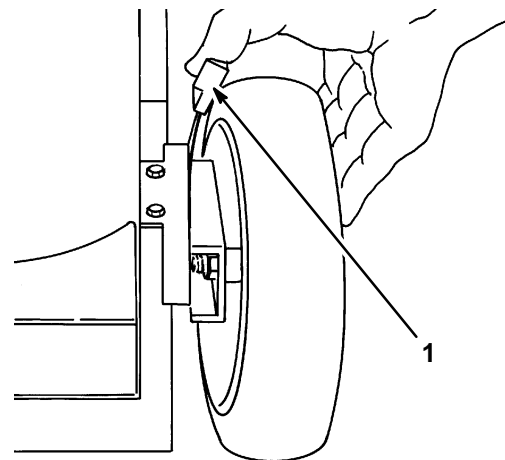

Figure 16
2. For easier adjustment, lift housing up so wheel is off ground. **Do not place hands under deck to lift housing.** Squeeze adjusting lever toward wheel (Fig. 16) and move it to the desired setting. Assure pin on adjusting lever engages notch in mower housing wear plate. Adjust all wheels to the same setting.